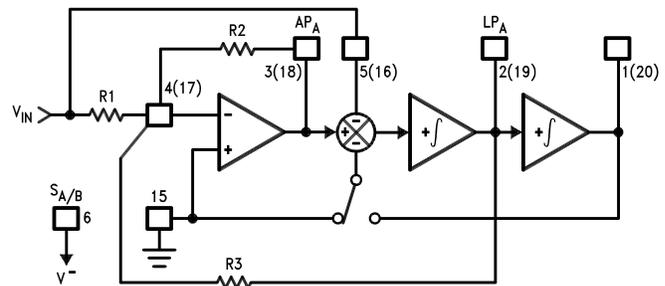

Figure 50. MODE 6c
**8.4.1.11 MODE 6c: Single-Pole, AP, LP Filter (See Figure 50)**
Also, one output can have a reasonable small voltage on it while another is saturated. This is most likely for a circuit such as the notch in Mode 1 (Figure 40). The notch output will be very small at  $f_0$ , so it might appear safe to apply a large signal to the input. However, the bandpass will have its maximum gain at  $f_0$  and can clip if overdriven. If one output clips, the performance at the other outputs will be degraded, so avoid overdriving any filter section, even ones whose outputs are not being directly used. Accompanying Figure 40 through Figure 50 are equations labeled *circuit dynamics*, which relate the Q and the gains at the various outputs. These should be consulted to determine peak circuit gains and maximum allowable signals for a given application.